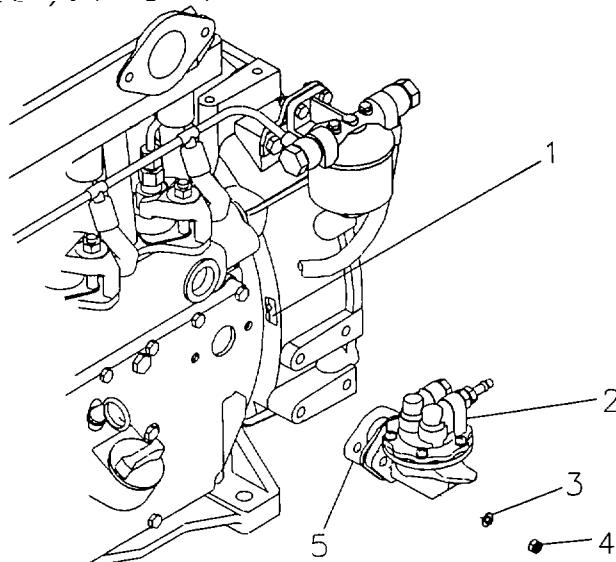
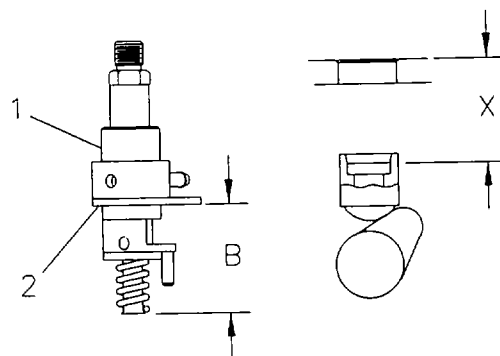

Figure 6-9. Flywheel Timing Window.
Figure 6-10. Fuel Pump.
c. Timing. Refer to figure 6-9.
- 3) Using a depth micrometer, measure the distance between the top face of the crankcase to the top of the fuel pump tappet cap. This is shown as dimension "X" in figure 6-10 below.
- 4) Subtract this dimension from dimension "B" (2.012 in./51.2 mm). This gives the required thickness of shims to be inserted between the fuel pump plate (2) and the crankcase.
- 5) Install the fuel lift pump (2, fig 6-9) and new gasket (5, fig. 6-9).